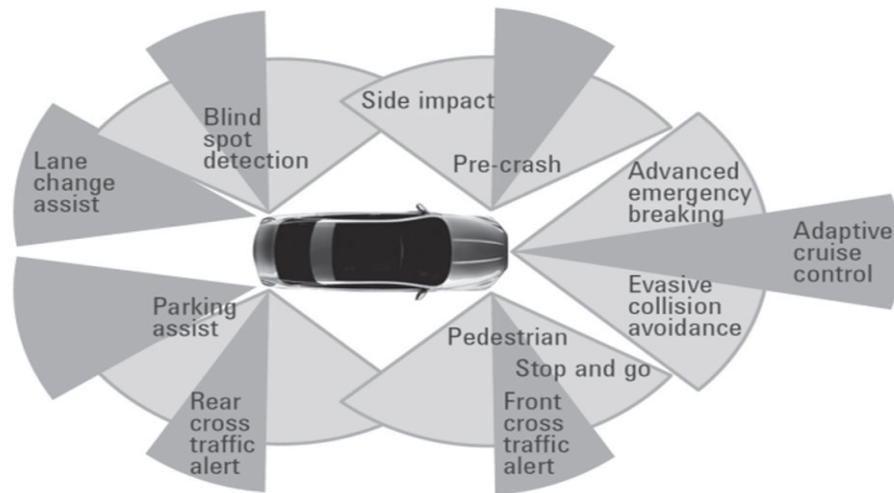

Figure 1: The sensor detection system with the FMCW signal.
FMCW radar system works with a similar mechanism as a Continuous Wave (CW) radar, in which a known stable frequency radio energy is continuously transmitted and then received from any reflecting objects. However, this CW radar signal only detects the reflecting object without providing any information about the object's distance due to lack of timing mark necessary to determine its location. In contrast to the CW radar, the FMCW system uses a transmission signal that has been modulated in frequency which allows the operating frequency of the signals to be varied during the measurement. Thus, the distance measurement is possible with this type of signals. The FMCW system makes the 360-degree view for the vehicle possible as shown in Figure 1.